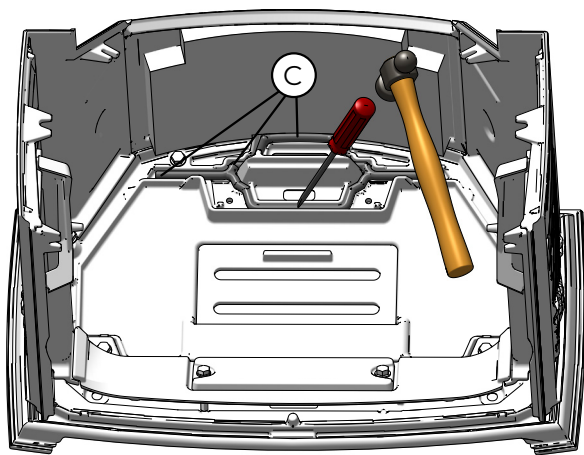

Fig. 7.11
6	Remove the old cement (C) from the groove (Fig. 7.11)